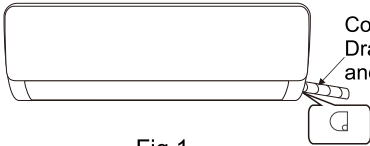

Fig 1
- Depending on the position of the unit, the piping may be routed sideway from the left or the right (Fig 1), or vertically from the back(Fig 2)(depending on the pipe length of the indoor unit). In the case of sideway routing, cut off the outlet cutting stock of the opposite side.